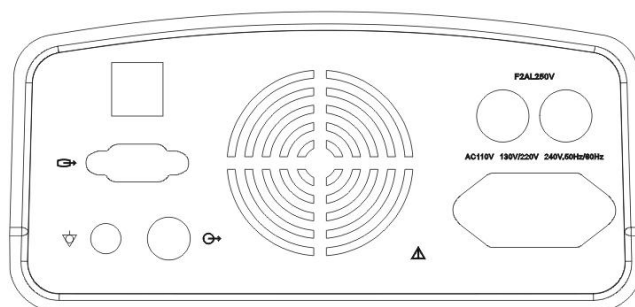

Figure 2-3. Back panel sketch
1. Check the power supply too see if it is in the expected range, then connect the equipment and the power socket with the cable (see figure 2-3).